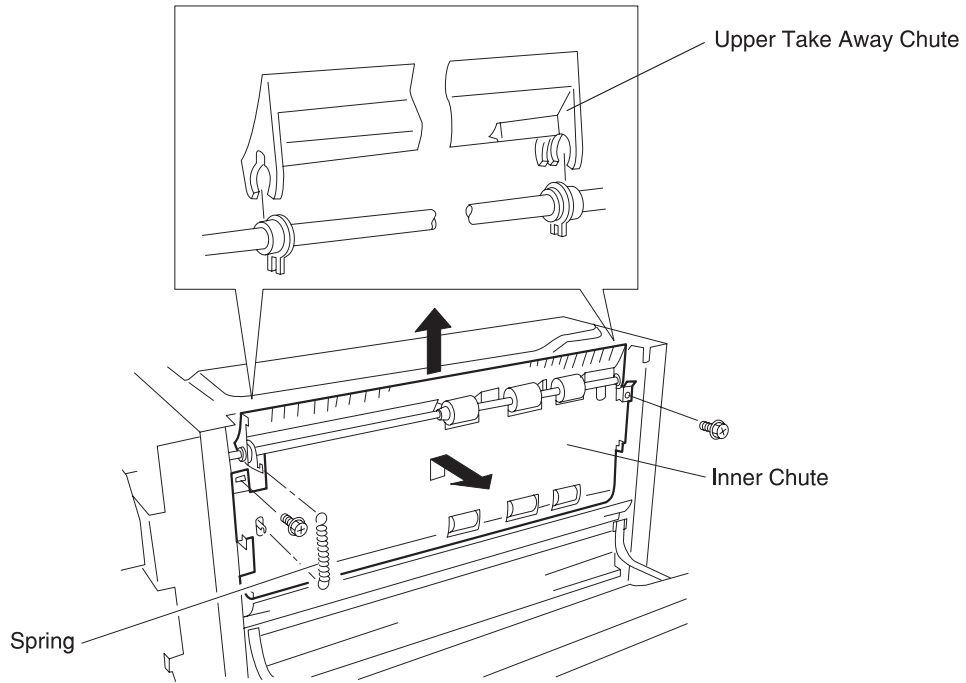

Figure 1
5. Remove the Spring that is located on the left side of the Inner Chute (Figure 1).